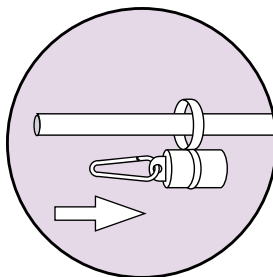
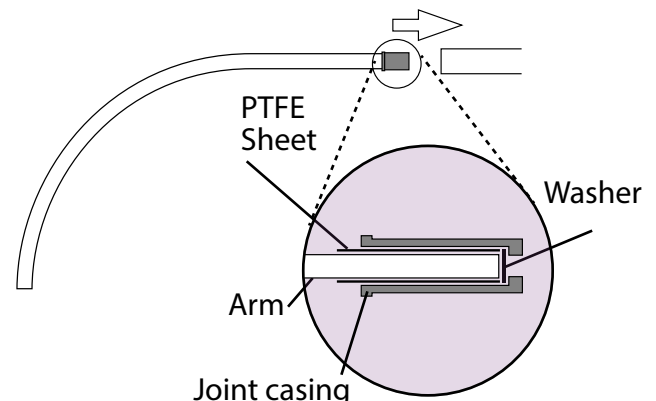

Fig 5a.
Fig 5b.
6. Place the weight over the main pole. (see fig 5a) Ensure that the PTFE sheet lines the inside of the joint casing and the washer is in the bottom before connecting the curved tube with the joint to the main pole. (see fig 5b)